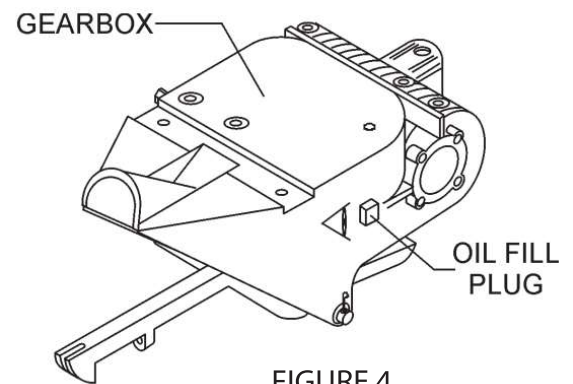

FIGURE 4
7.4.1 Determine if the gearbox oil is low by removing the oil plug located on the side of the gearbox. This plug will be marked by the "check" decal. See Figure 4. The correct level of the lubrication oil should be to the bottom of the fill plug.
When ambient temperatures are below 60°F (16°C) cold weather startup procedures must be followed before bringing machine into maximum engine RPM and rotor speed. If the procedure is not followed, damage could occur which will void the warranty. (Figure 4)